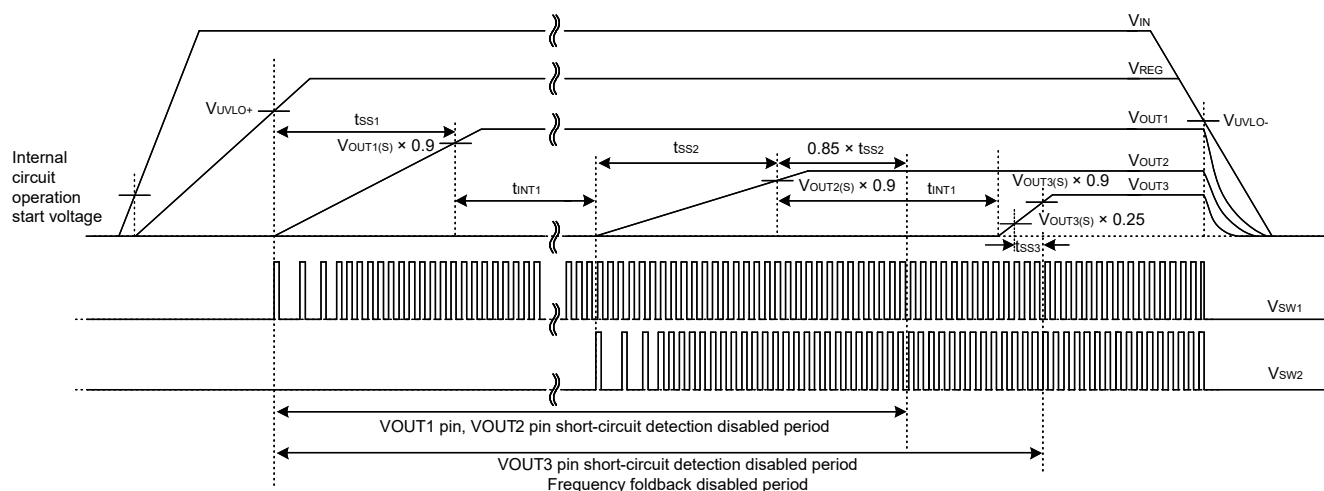
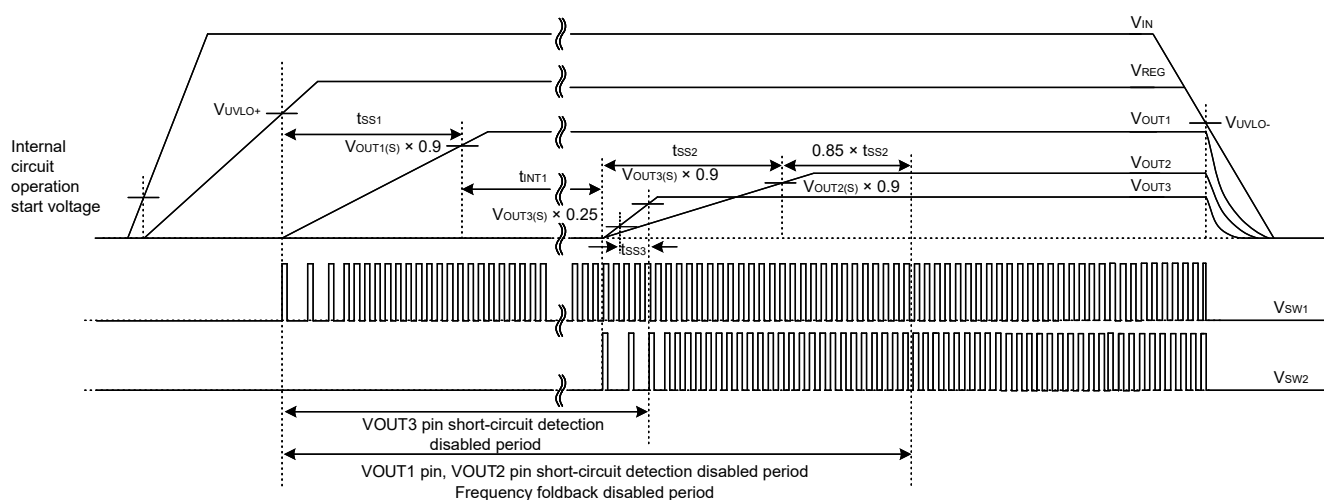
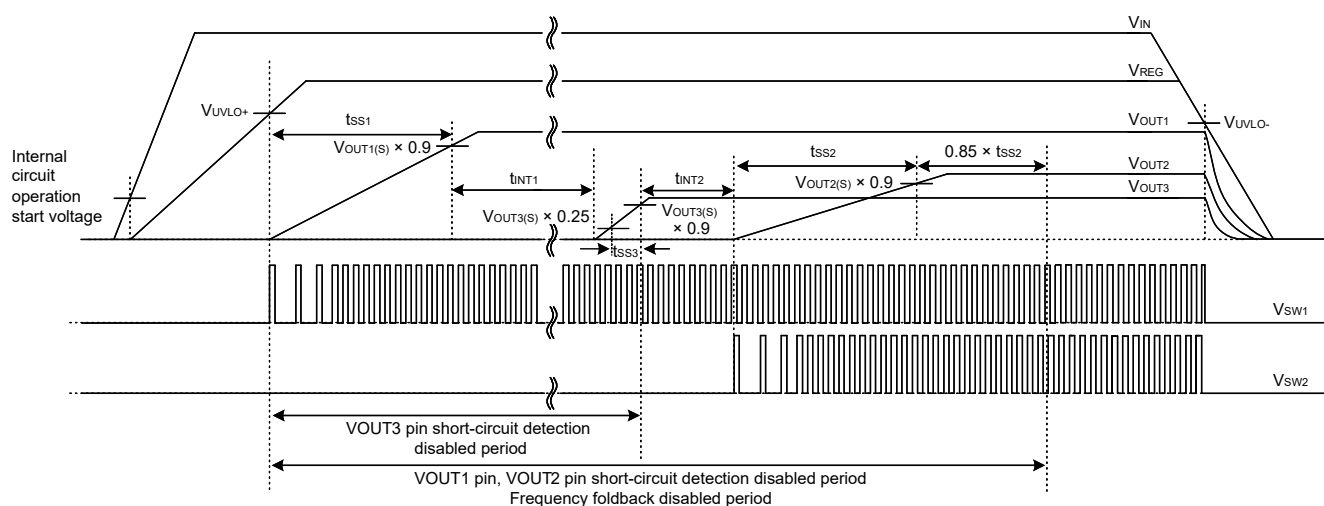

Figure 3 Timing Chart SEQ1
Figure 4 Timing Chart SEQ2
Figure 5 Timing Chart SEQ3
*2. Refer to **Table 8**, **Figure 3**, **Figure 4** and **Figure 5**.
*5. The time it takes for V_{OUT3} to reach 90% from the set value of 25% during start-up. Refer to **Figure 3**, **Figure 4** and **Figure 5**.
Each output pin has a frequency foldback function (VOUT1 pin, VOUT2 pin) and short-circuit protection function (VOUT1 pin, VOUT2 pin, VOUT3 pin) as functions to protect against abnormal drops in output voltage, however all of these functions are disabled during the normal startup sequence. For details, refer to **Figure 3**, **Figure 4** and **Figure 5**.
The time in a startup sequence between the previous Ch soft start completing and the next Ch soft start beginning is called the interval time. Interval time is shown in the timing charts in **Figure 3**, **Figure 4** and **Figure 5**.
This IC's frequency foldback function is set to disabled during the normal startup sequence. Refer to **Figure 3**, **Figure 4** and **Figure 5**.